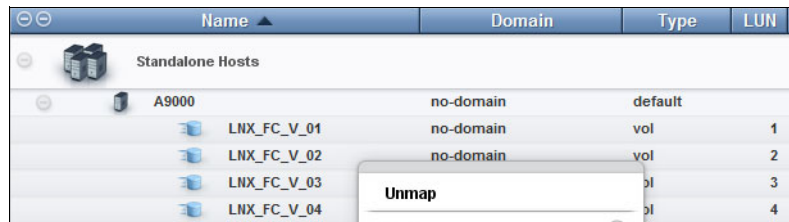

Figure 8-27 Unmap volumes
- In the XIV GUI, select the volumes mapped to **A9000** and select **Unmap** to unmap the volumes from the host **A9000**, as shown in Figure 8-27.